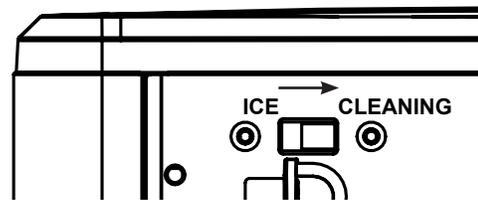

Figure 2
4. Plug in Opal and slide the rear switch to the "CLEANING" position. See figure 2.